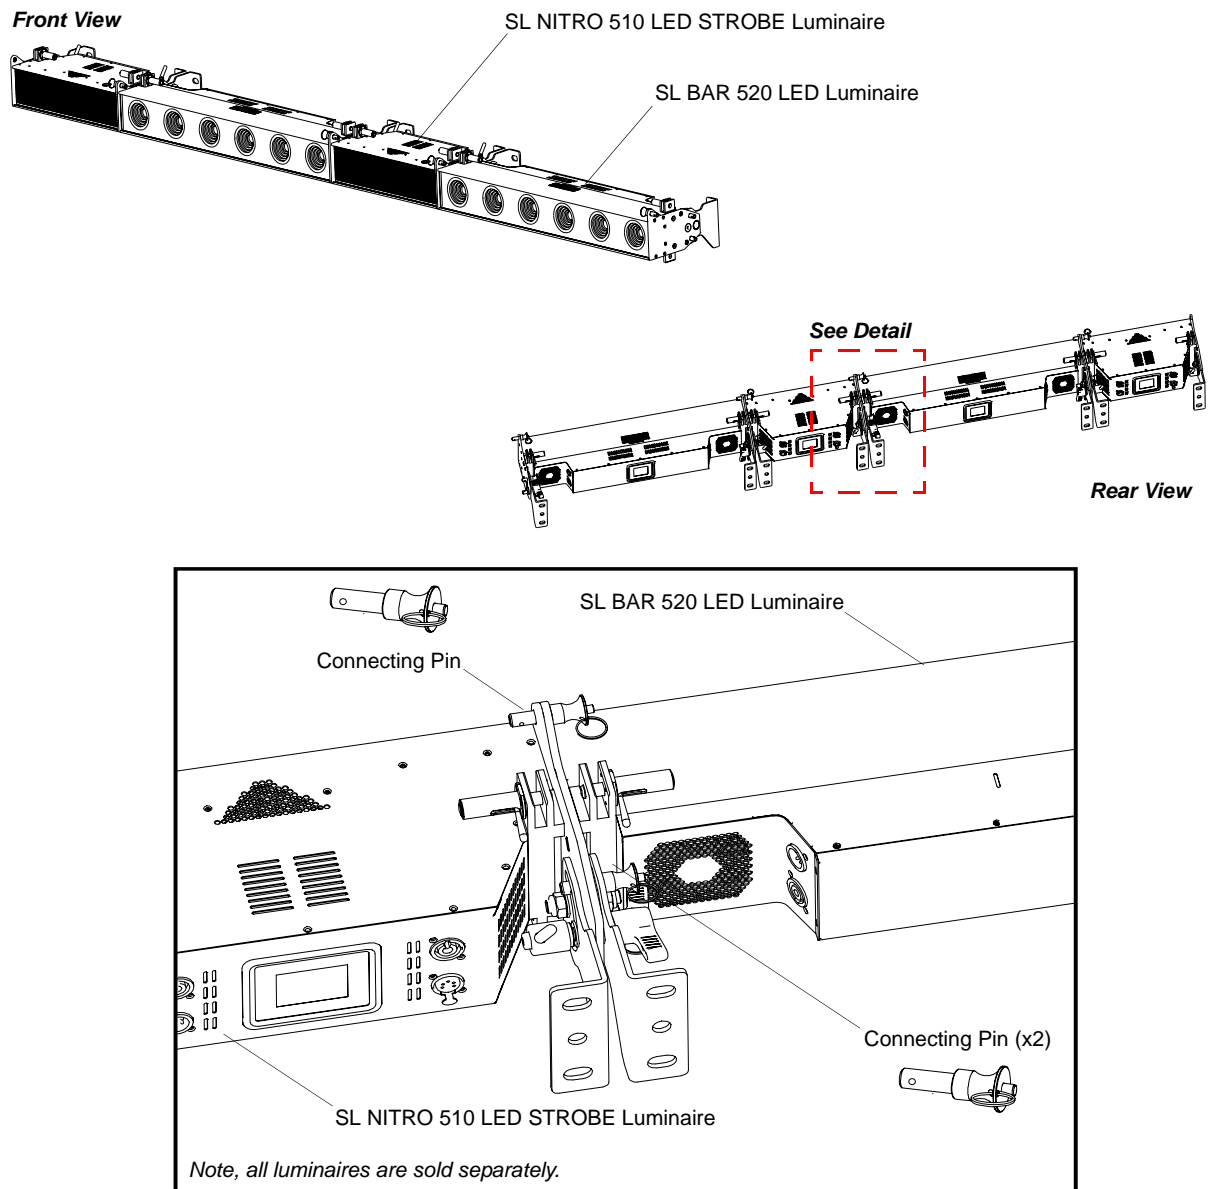

Figure 12: Connecting Combined Luminaires Side-to-Side Example
- **Figure 12** shows an example of connecting luminaires side-by-side.